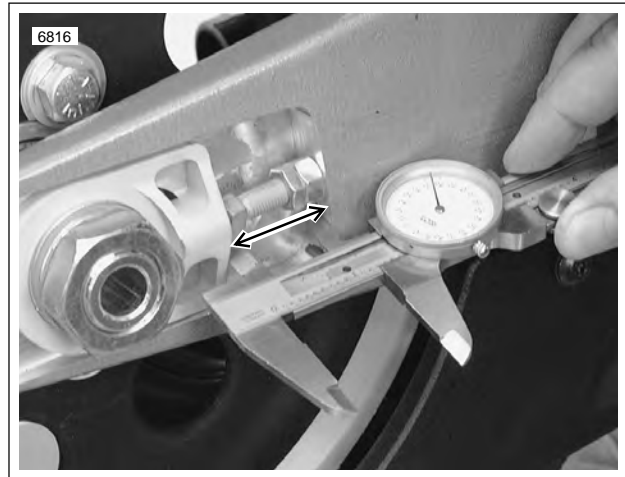

Figure 2-70. Checking Rear Wheel Alignment, Right Side Shown
- a. See Figure 2-70. Check rear axle alignment.